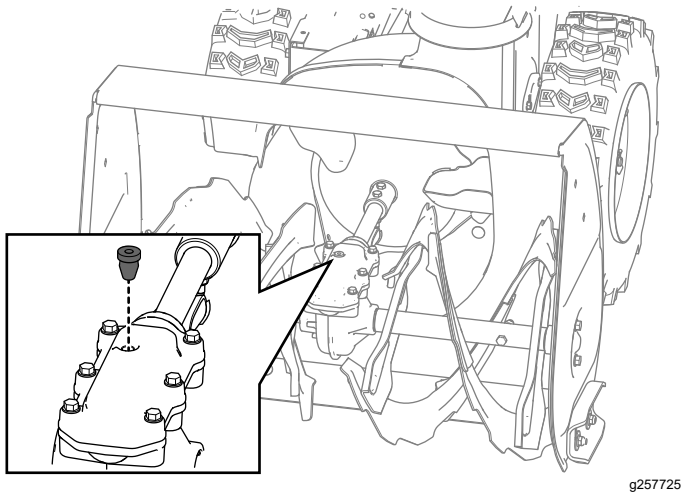

Figure 37
2. Clean the area around the pipe plug and remove the pipe plug from the gearbox (Figure 37).